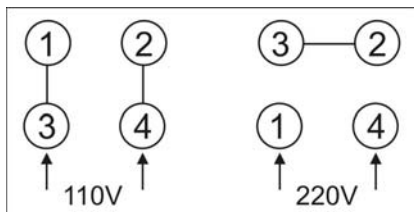

Figure 9
- Switch the leads in the coolant pump junction box, according to the diagram in Figure 9. (A diagram is also included on the coolant pump.)